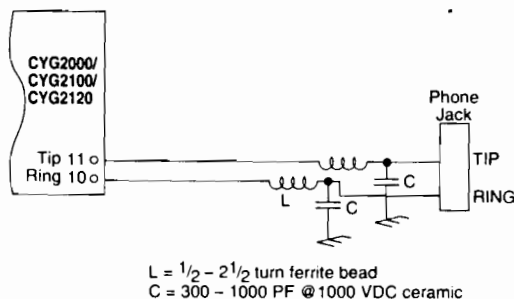

Figure 11. EMI Considerations
- Include a provision on your PCB design for a 1/2 turn ferrite bead and capacitor in your layout from the Tip and Ring terminals of the DAA to the telephone jack as shown in figure 11. This LC network will form a low pass filter that will roll off high frequencies. The decision to populate the board with these components will be based on the results of the radiated emissions coming out of the telephone line during FCC testing.